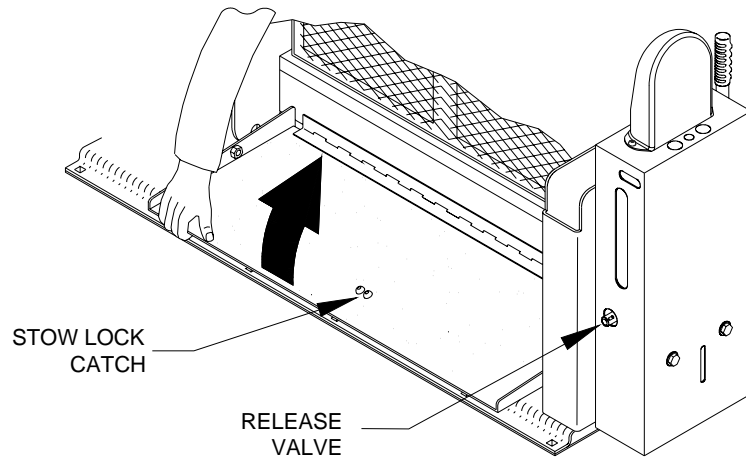

FIGURE 2-11: RAISE BRIDGEPLATE BY HAND
- a. Refer to **Figure 2-11**. Override the Stow-Lock feature by lifting bridgeplate by hand. This will separate the Stow-Lock catch (fastened to underside of bridgeplate) from Stow-Lock latch (fastened to base assembly). If Stow-Lock is difficult to separate, use manual backup pump to raise platform slightly and remove tension from catch; refer to "Stow Platform" paragraph in this section.